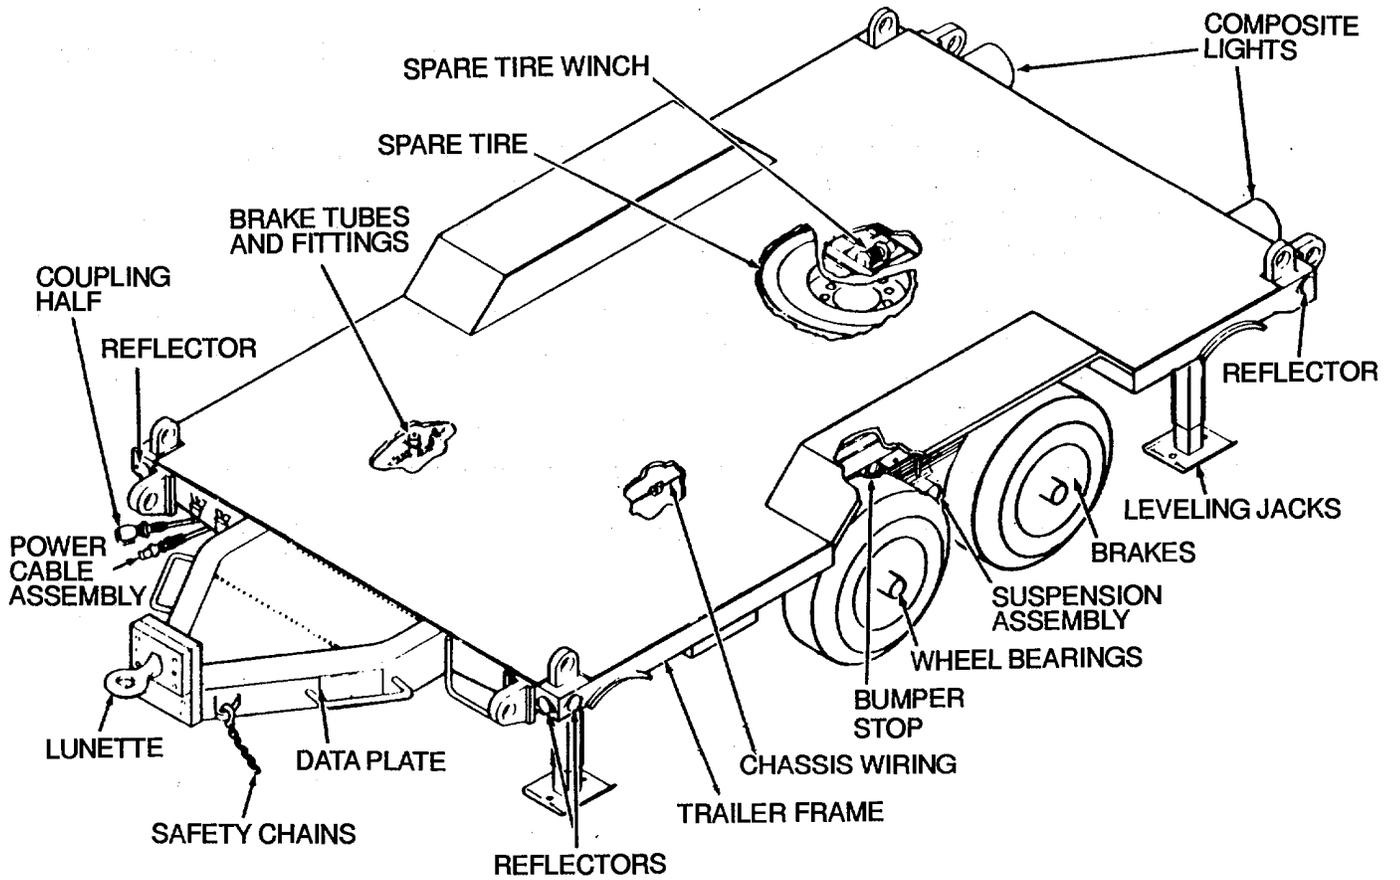
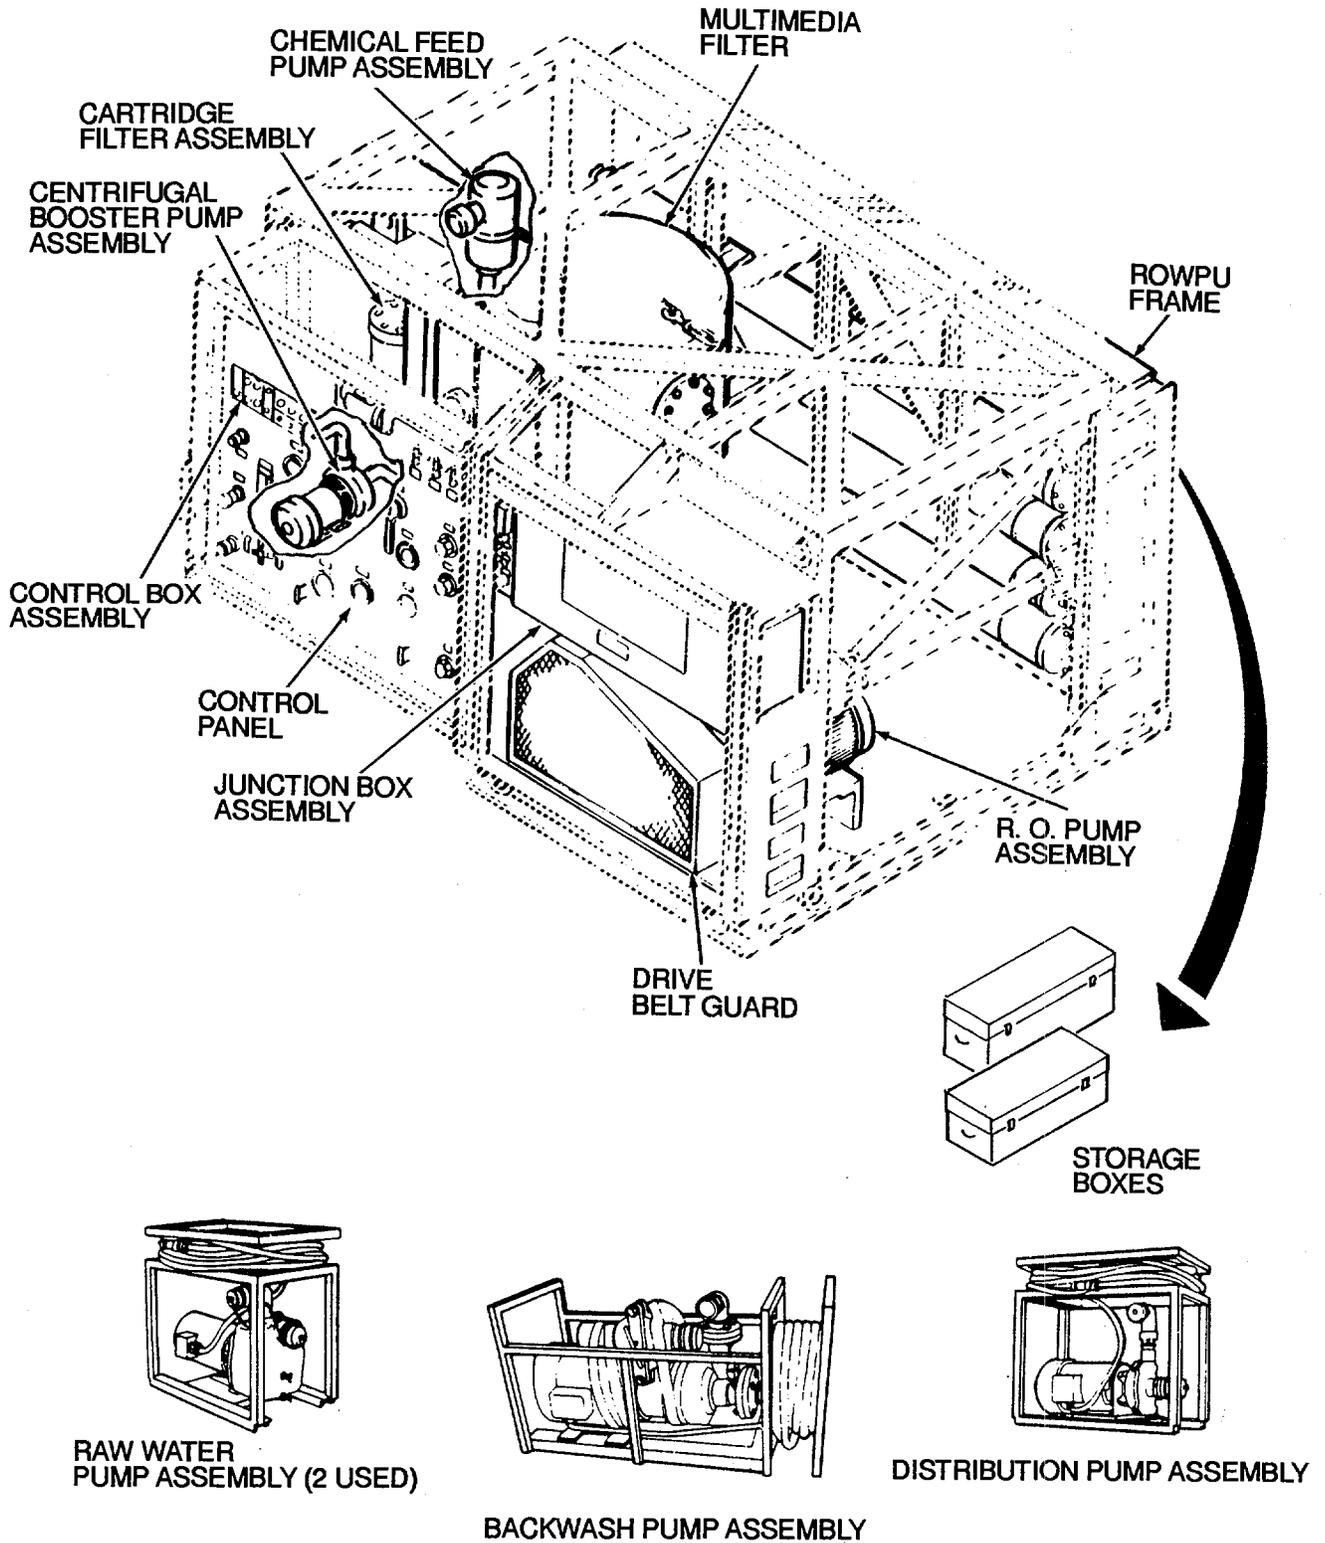

Figure 2-1. Flatbed Cargo Trailer
Figure 2-2. ROWPU
- (1) Adjust. Make all adjustments by following the procedures given in this manual or in bulletins.
- (2) Clean. Clean items by following the general cleaning procedures given in paragraphs 2-8.d and 2-20 through 2-26.
- (3) Service. Normally, service includes filling the tires with air and changing or cleaning filters.
- (4) Tighten. Tighten items with enough force on the wrench handle to tighten according to good mechanical practice. Do not overtighten; this may strip threads or cause distortion. Tightening includes using lockwashers, locknuts, lock wire, or cotter pins when needed. Use a torque wrench when the procedure calls for one.
- (5) Modification work order application. Write all needed modification work orders (MWO) for the equipment on DA Form 2408-5.
- a. PMCS Support Diagrams. Figure 2-1 gives location of components for the flatbed cargo trailer and figure 2-2 gives location of components for ROWPU.
- (1) Item No. This column gives the order in which the checks and services are to be done. Use these item numbers when filling out the TM Item No. column on DA Form 2404, Equipment Inspection and Maintenance Worksheet, or Marine Corps forms as prescribed by TM 4700-15/1.
- (2) Interval. These columns state, in calendar days, the amount of time between scheduled checks and services. A dot (•) is placed in the column that applies to each procedure.
- (3) Item To Be Inspected. This column names the item to be checked or serviced.
- (4) Procedures. This column gives the checks and services that need to be done on the item.